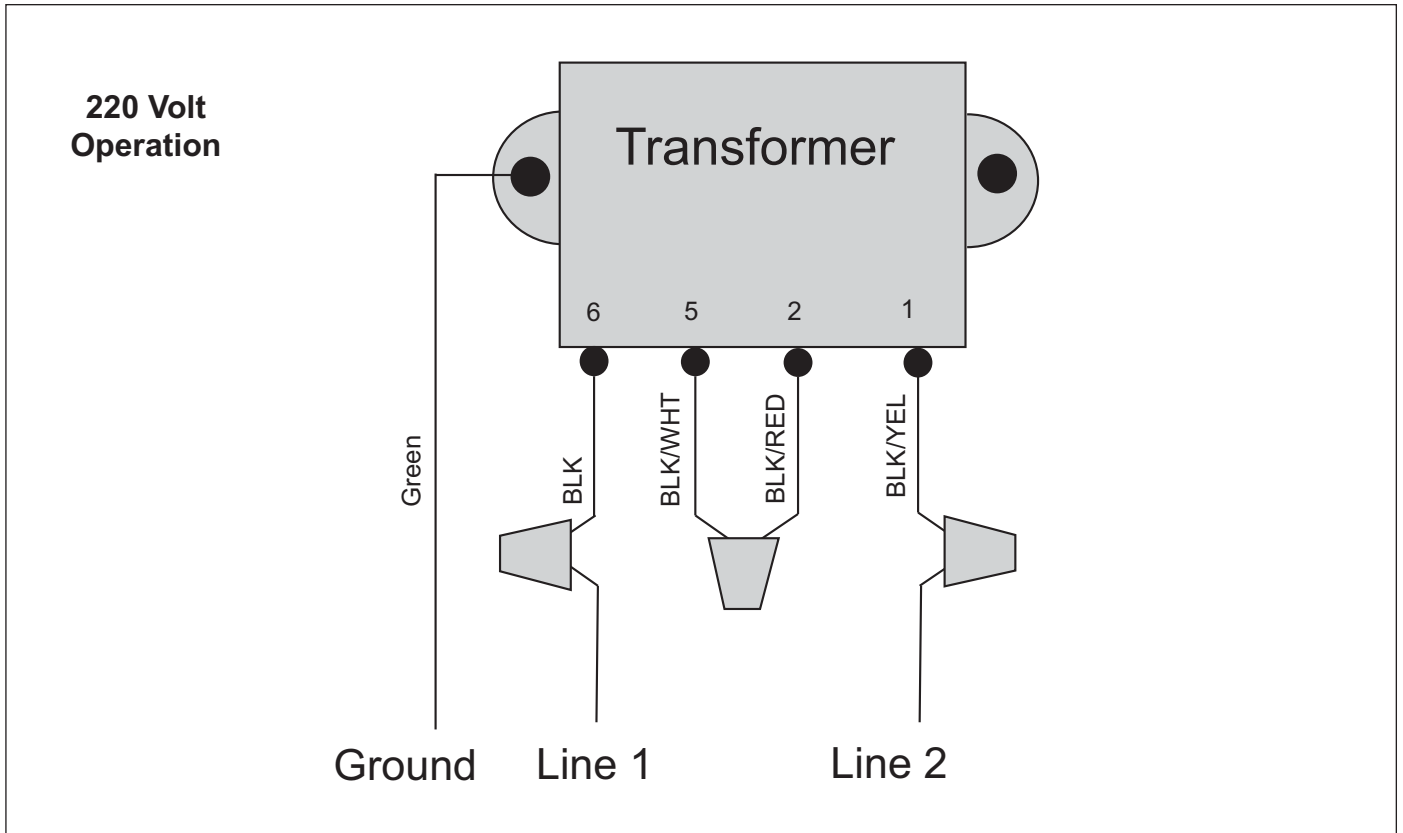
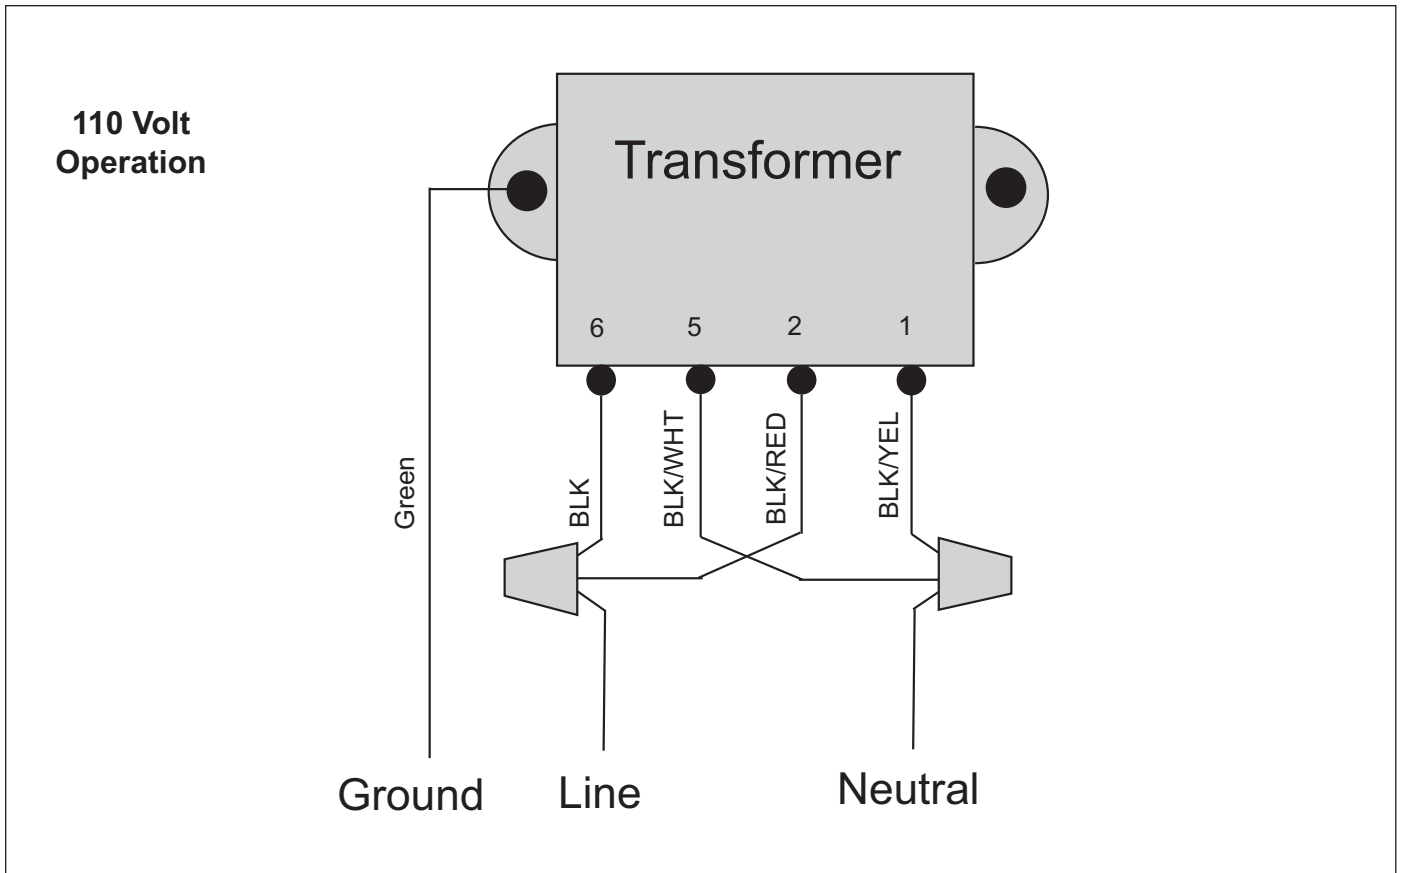

Figure 4. K-1100, K-2300, and LEV110CK/2G Factory Wiring for 220 Volt Operation
Figure 5. K-1100, K-2300, and LEV110CK/2G Modified Wiring for 110 Volt Operation
**Models K-1100, K-2300, and LEV110CK/2G are factory wired for 220 VAC service.** If available electrical service is 110 VAC, the power supply wiring must be changed to operate on 110 VAC as shown in figures 4, and 5.
See Figure 4 for factory-direct wiring for 220 volt operation and Figure 5 for modified wiring for 110 volt operation.
3. Check the source voltage. (All three (3) units are factory wired for 220 volt operation.) To modify the wiring for 110 volt operation, see *Section 3.3*.
4. For 220 volt operation, connect the black wire to line 1 and connect the black wire with the yellow stripe to line 2. See Figure 4.
Refer to Figures 4 and 5 and do the following:
1. Cut the splice cap connecting the black/white and the black/red wires. See Figure 4.
2. Connect the black/red wire with the black wire and connect to the line side of power. See Figure 5.
3. Connect the black/white wire with the black/ yellow wire and connect to the neutral side of power. See Figure 5.